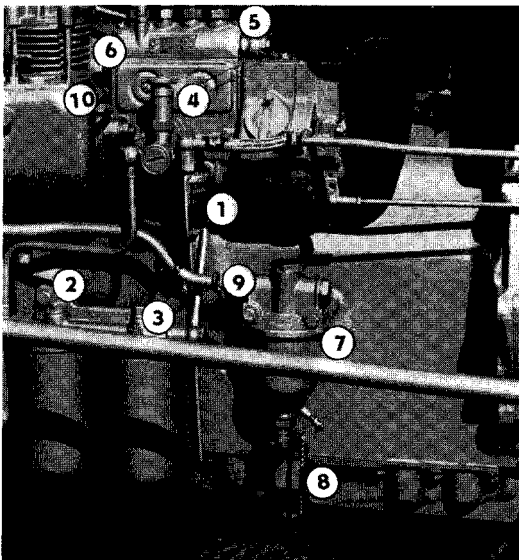
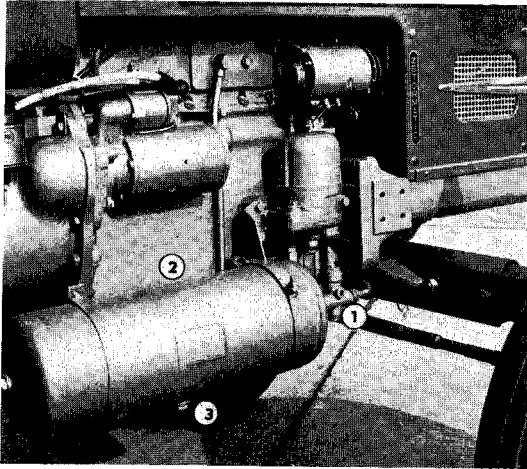

Fig. 11
Fig. 12
Change the oil always at the end of the run, while it is still warm. First unscrew the magnetic drain plug (Fig. 11/8) on the bottom crank case lid. Clean the plug to remove the caught metal particles.
Drain the old oil and pour into the engine B 1 or B 2 flushing oil. The level of the flushing oil should be between the gauge marks on the oil dip stick (Fig. 11/9). Start the engine and let it run at minimum revolutions for about 10 minutes. Drain the flushing oil and fill the engine with fresh oil as specified.
If the sedimentation glass bowl (Fig. 11/1) contains impurities, remove the bowl and wash the sieve thoroughly in diesel oil.
After loosening the central bolt lock nuts (Fig. 11/2), remove the bowls in a downward direction, wash them thoroughly, replace the
- (1) Open fuel tank cock and loosen stirrup of sedimentation pre-cleaner glass bowl (Fig. 11/1), in order to fill the bowl with Diesel oil without any air bubbles. Secure the bowl by tightening the stirrup.
- (2) Loosen the deaeration screws of the fuel cleaners (Fig. 11/3) and operate manually the fuel transport pump (Fig. 11/4) until Diesel oil without bubbles flows out from both cleaners. Tighten the coarse cleaner screw and keep on pumping manually for a little while. Then tighten also the fine filter screw.
- (3) Loosen the deaeration screws of the fuel injection pump (Fig. 11/5) and pump manually until Diesel oil without air bubbles escapes around the screws. Keep on pumping and tighten first the left-hand screw, then the right-hand one. Set the control lever to full fuel dose and employ the pushbutton on the control rod.
The pneumatic brakes are used for braking the trailer. The air is conducted from the compressor (Fig. 11/6), into the tyre inflator (Fig. 11/7) and via a pressure equalizer (Fig. 12/1) into the air tank (Fig. 12/2). At the bottom of the latter is a plug (Fig. 12/3) for draining contamination; during frosts, this plug is used for dewatering. The air tank should be tested by an authorized institution once every two years, and the date of the test stamped on the air tank nameplate. The pressure gauge (Fig. 1/1) indicates the pressure in the air tank. Should it become necessary to adjust the pressure, have this done in a specialized workshop. The brake valve is linked by a pull rod with the brake pedal and simultaneously with the hand brake lever, so that when the tractor is stopped and secured with the hand brake, also the trailer is braked. The braking force acting on the trailer depends on the pressure exerted on the pedal. The greater the pressure exerted by the driver on the pedal, the more is the trailer braked with a certain advance.